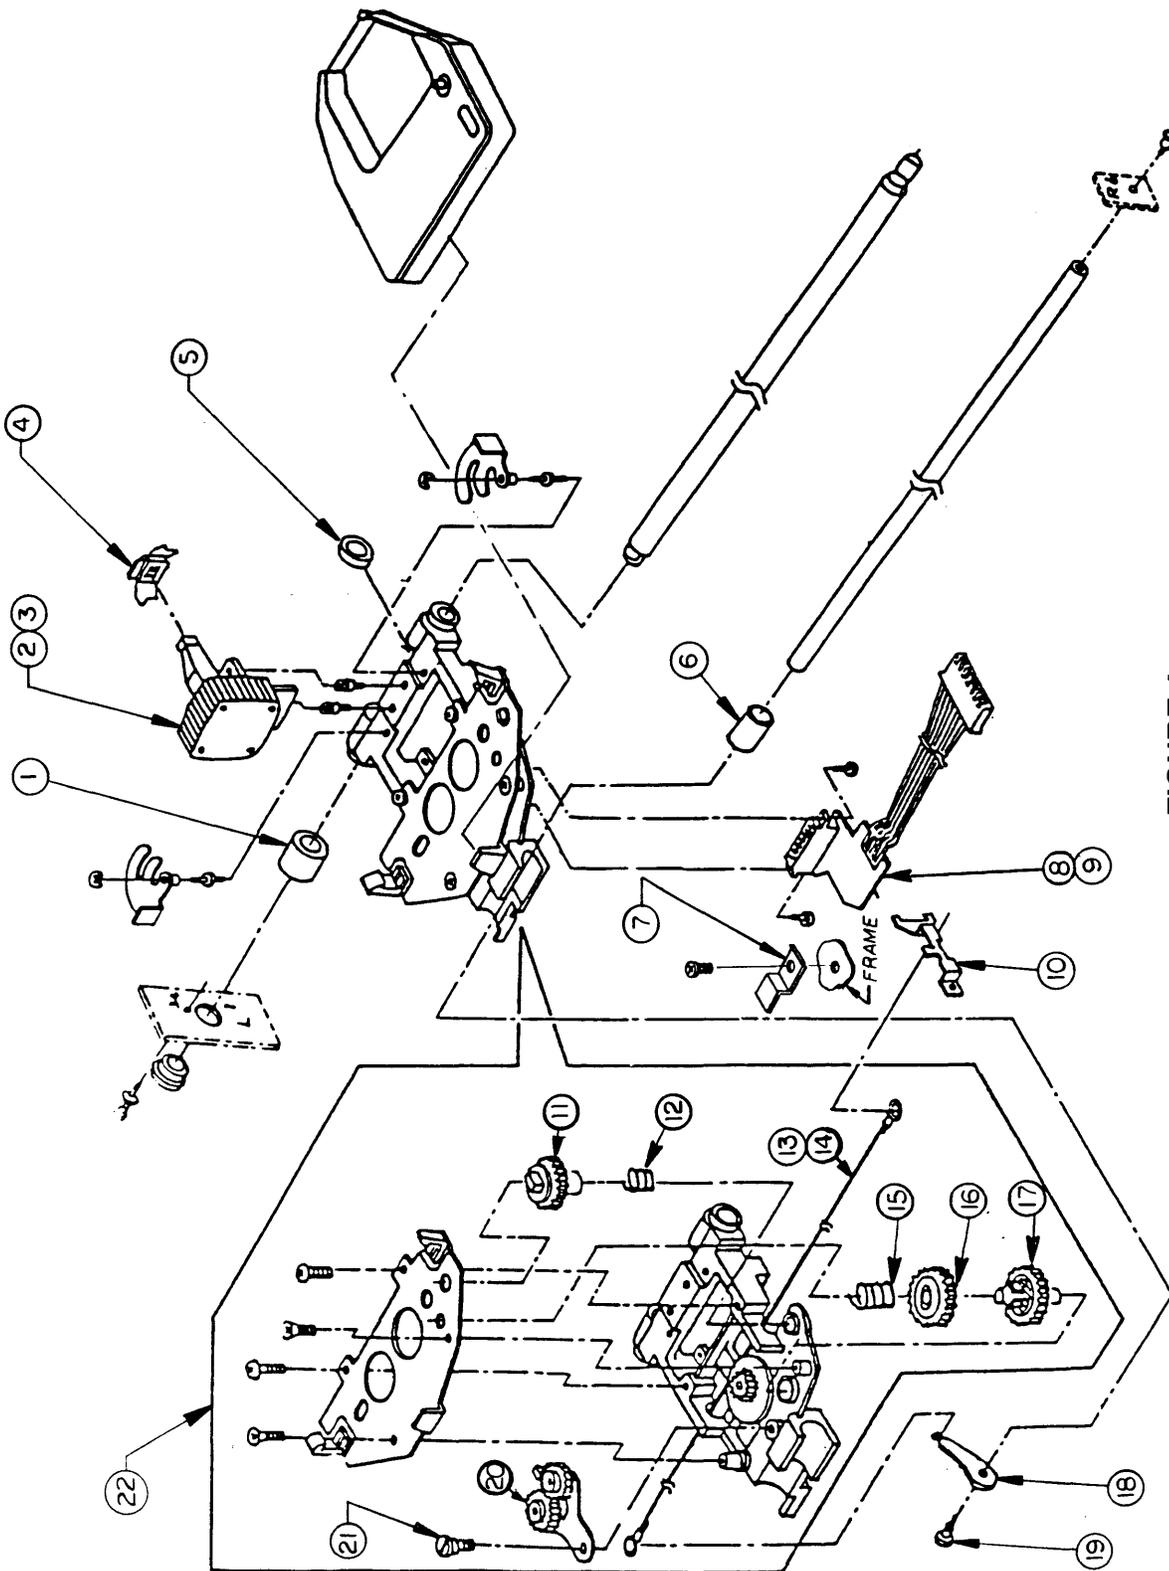

FIGURE 4
□ **PRINT HEAD ASSEMBLY (Figure 4)**